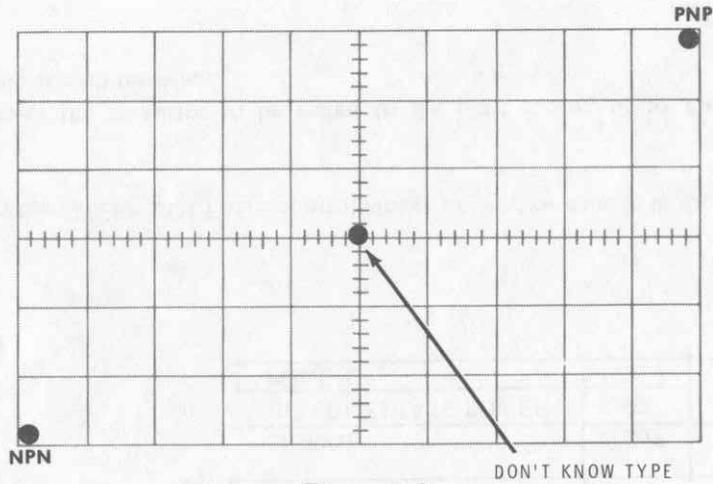

Figure 2-4
- () If the transistor is an NPN, place the dot in the lower left-hand corner of the screen. If it is a PNP, place it in the upper right-hand corner of the screen. If you don't know if it is NPN or PNP, place the dot in the middle of the screen as shown in Figure 2-4.
2. Refer again to Figure 2-4, turn the SWEEP VOLTAGE control fully counterclockwise, and place the dot in the appropriate corner of the screen for NPN or PNP.